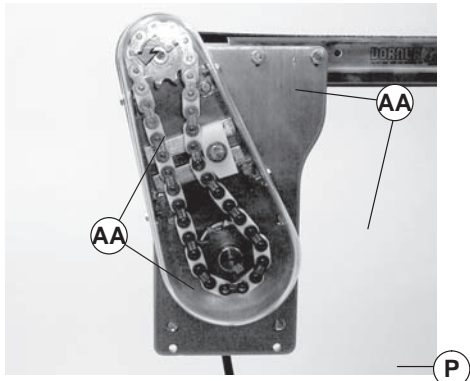

Figure 23
1. Loosen four screws (Figure 23, item AA) and remove cover (P).
Do not over-tighten screws (Figure 23, item AA).
8. Install cover (Figure 23, item P) and tighten four screws (AA) to 35 in-lb (4 Nm).